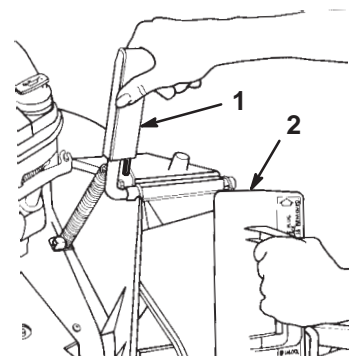

Figure 5
1. Open the discharge door by pulling forward on the handle and moving it rearward (Fig. 5). Hold the discharge door handle to prevent the spring-loaded door from closing while you insert the plug.
- Since the plug is slightly wider than the discharge tunnel opening, rotate the plug clockwise slightly while inserting it (Fig. 5).